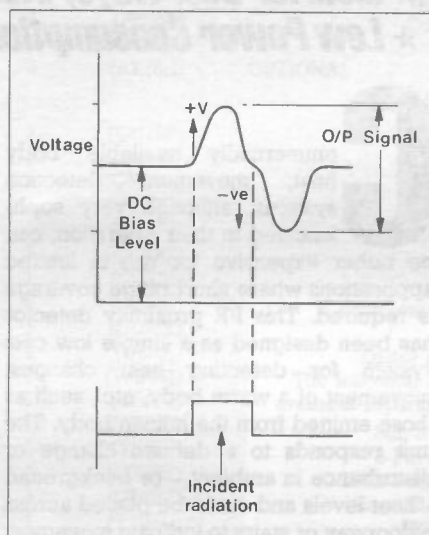

Figure 3. Source Output Voltage Swing.
by the quiescent current (ID) flowing through the FET while no signal is present, as Figure 3, and output signals from the source terminal overlap this level with a +Ve voltage swing.
Positive voltage swings from IC1a trigger the IC1d comparator causing D1 to conduct, while negative swings trigger IC1c causing D2 to conduct. From Figure 3 it can be seen that the output voltage swing from the IRD is, firstly, in a positive direction and then secondly in a negative direction. The ultimate effect from the comparator output at R11 is therefore not one but two pulses turning on transistor TR1.